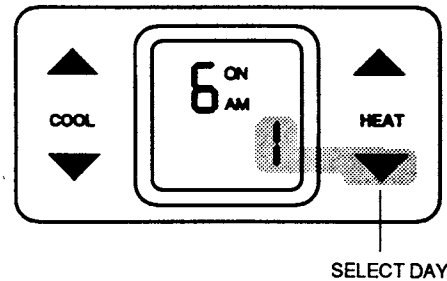

Fig. 11 — Select Day
2. Select the day to be programmed. (1 = Monday, 2 = Tuesday, etc.). See Fig. 11.